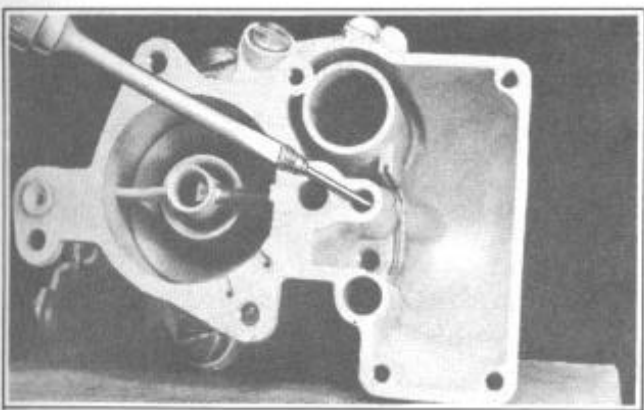

FIGURE 20
6. Remove low speed jet assembly, Figure 20.